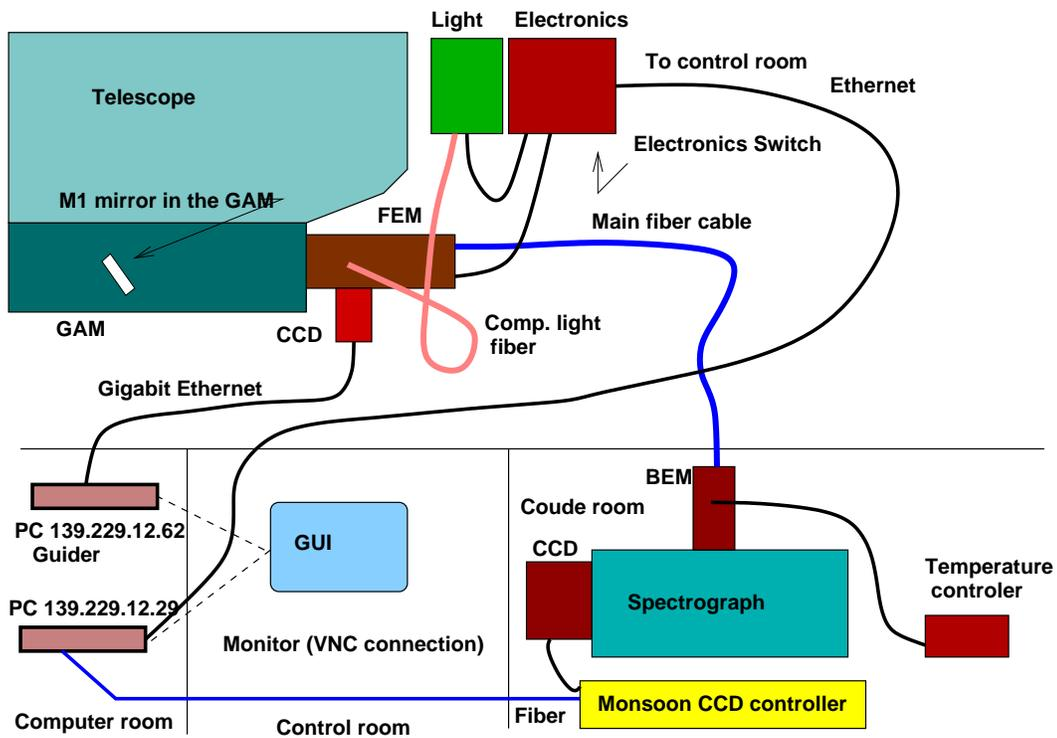

Figure 3: Connections of the 1.5-m echelle system.
The connections of FEM are shown in Fig. 3. The orange fiber cable brings the light of the comparison sources, it is permanently fixed inside the FEM (to detach it, the FEM must be opened).
- Verify all connections (Fig. 3).